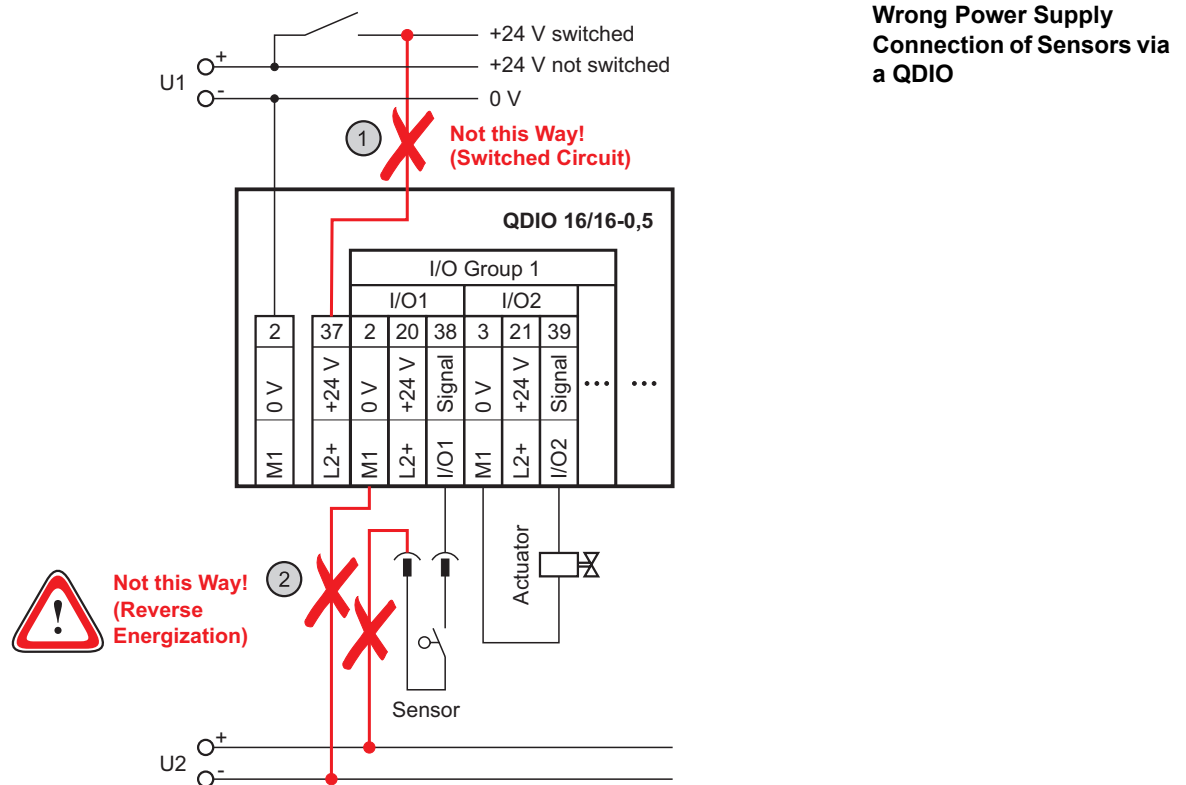

Figure 29: Wrong Power Supply Connection of Sensors via a QDIO
- ① The attached sensors must be supplied with power from a permanently connected (unswitched) power supply that cannot be individually switched off, without switching off the module's power supply. Power must not, as shown in figure 29 on page 44, be supplied from switched power circuits!
- ② The sensors within an I/O group must always be supplied with power from the same power supply that supplies the relevant I/O group. They must not, as shown in figure 29 on page 44, be supplied from a separate power supply (due to the danger of reverse energization)!
- ③ Outputs may be supplied with power from a switched power supply, for example with intermediate devices (emergency stop, manual operation, etc.).